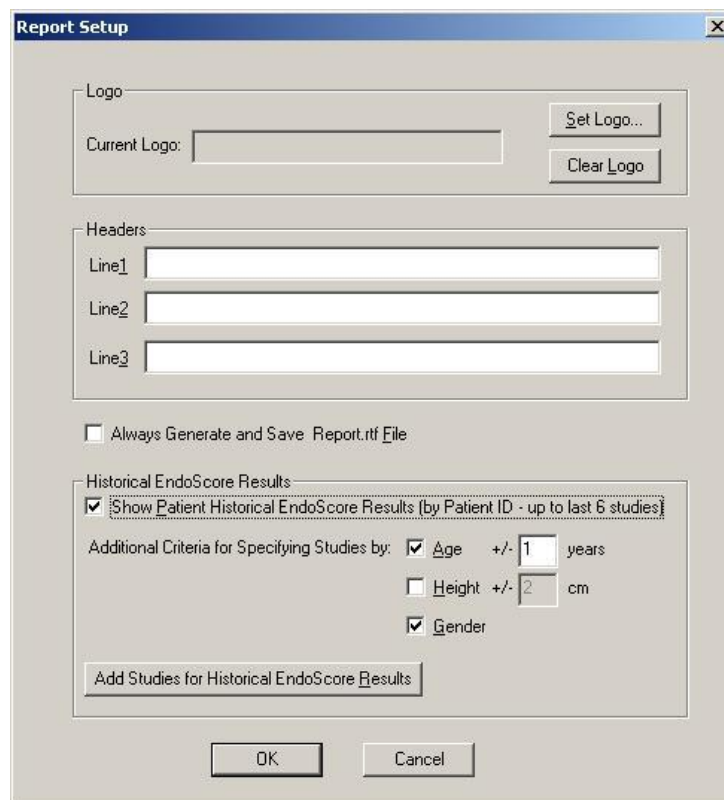

Figure 22 – Report Setup dialog box
12. To configure the report press the “Report Setup” button. This will open the “Report Setup” dialog (see Figure 22). In this dialog the Clinique details (a logo and 3 text lines) can be updated. These details will be used as a header to all EndoPAT™ reports (see Figure 23).